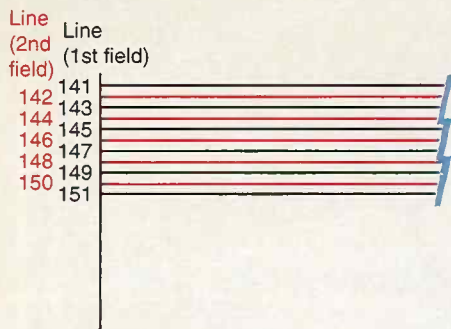

Fig. 3: During interlaced scan, the second field of 241 scan lines fill in the open spaces between the first field's 241 scan lines.
**Interlaced Scan:** Although each field scans the entire scene from top to bottom, the adjacent scan lines in each field are spaced far enough apart that another scan line would fit between each pair of lines. In fact, each of the 241 lines in the second field scan the open spaces between the scan lines of the first field (Fig. 3). This is called interlaced scan. Once the second field is scanned, the entire area of the scene has been sampled. This set of two fields of scan lines, which cover the entire scene, is known as one frame. Since one frame consists of two fields, each frame takes place in 2/60ths (1/30th) of a second.